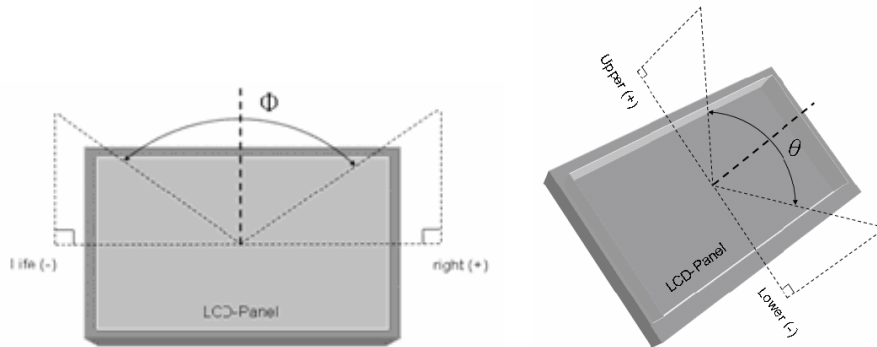

Fig.5-2 Definition of Viewing Angle
*4) Definition of Viewing Angle(θ , Ψ),refer to Fig.5-2 as below :